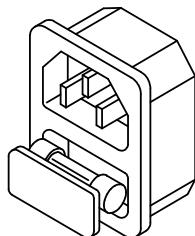

Fig 2-2 AC LINE RECEPTACLE
2.2.5 The line fuse is located below the AC line receptacle see Fig 2-2. With the power cord removed, use a small screwdriver to extract the fuse holder from under the AC socket.